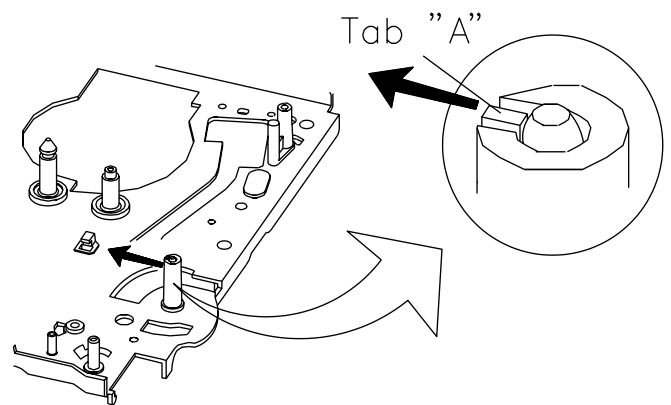

Fig.3-16 TENSION BAND ASS'Y REMOVAL (II)
- b. Turn the DECK MECHANISM over. (Fig.3-16)
- c. After separating the tab of hook 'A', remove the TENSION BAND ASSEMBLY ③. (Fig.3-16)